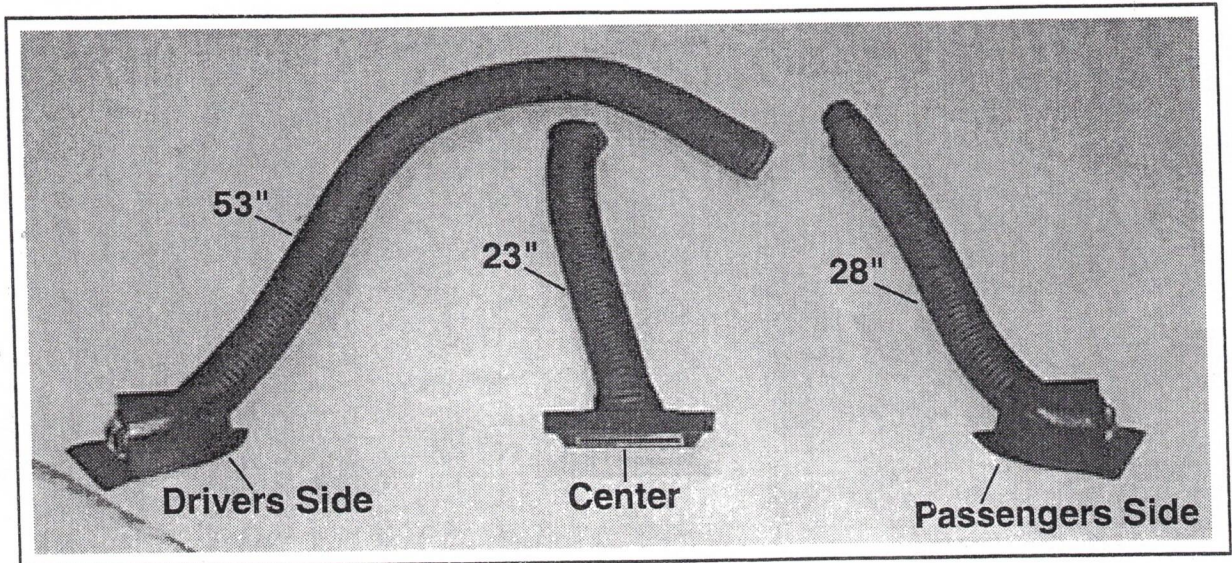

FIGURE 13
20) Prepare the louvers for installation. Cut the 2.5" flex hose into the lengths as illustrated in Figure 14. Press the flex hose onto the louvers; secure the hoses to the louvers with a #8 X 3/8 PTH screw. Route the flex hoses to the evaporator. (Figures 13 & 14)